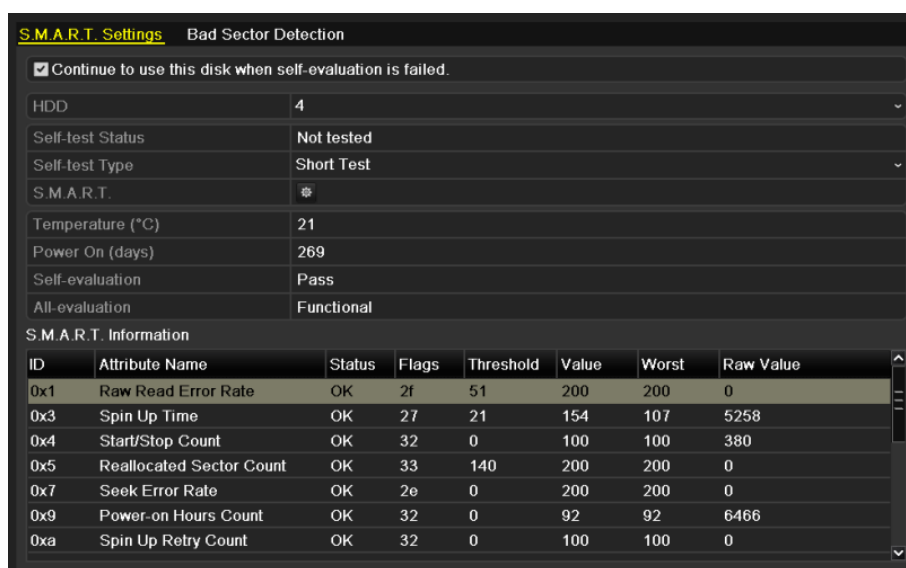

Figure 13. 27 S.M.A.R.T Settings Interface
2. Select the HDD to view its S.M.A.R.T information list, as shown in Figure 13. 27.